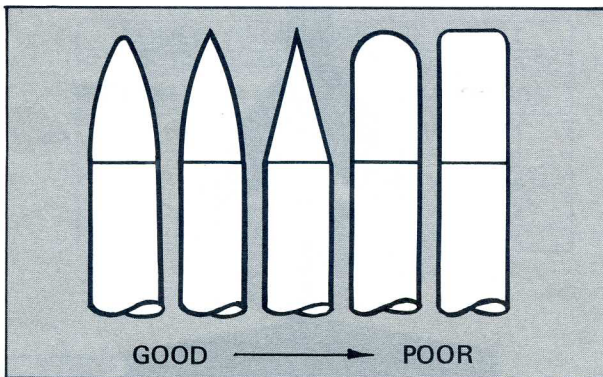

FIGURE 11 NOSE CONES
1. The Nose Cone. The efficiency of various nose cone designs have been measured in special high performance wind tunnel tests. A variety of shapes are shown in Figure 11. Because model rockets travel at subsonic speeds, the sharp pointing nose is not the best design. The slightly rounded (parabolic) nose cone actually has less drag.